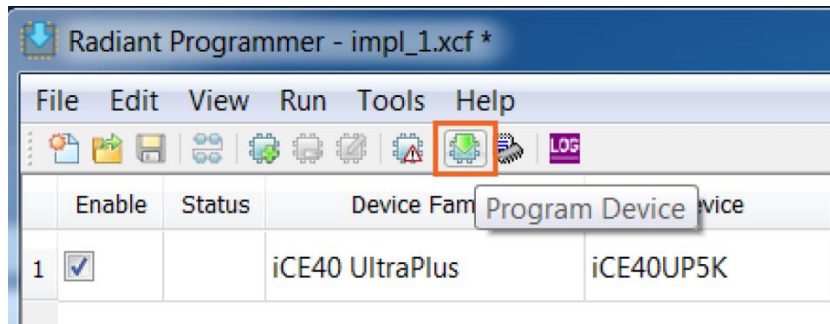

Figure 5.2. Program Device Button
| Figure 5.2. Program Device Button..... | 11 |
5. Select the **Device Family** and **Device** as shown in Figure 5.2.
| | Added Figure 5.2, Program Device Button. |